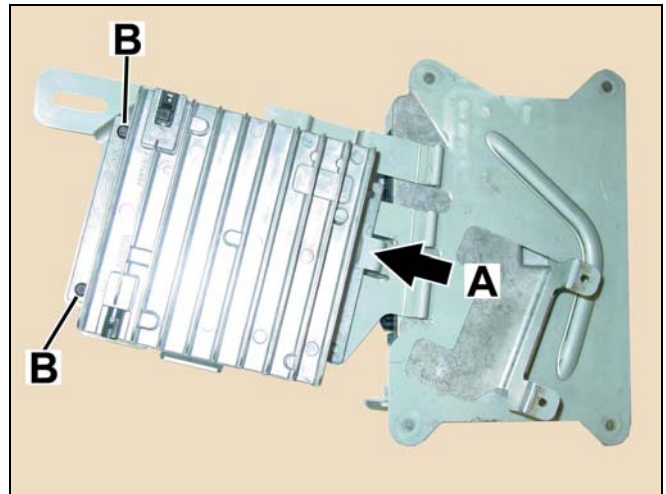

Figure 2
1. Mount the linear compensator to the bracket front by sliding the compensator base under the clip (A, Figure 2) and then fastening the opposing side with two M3.5 x 8 self-tapping screws (B, Figure 2).
**Note:** Orient the linear compensator with the connector receptacles facing the direction of the bracket mounting arm (Figure 2).